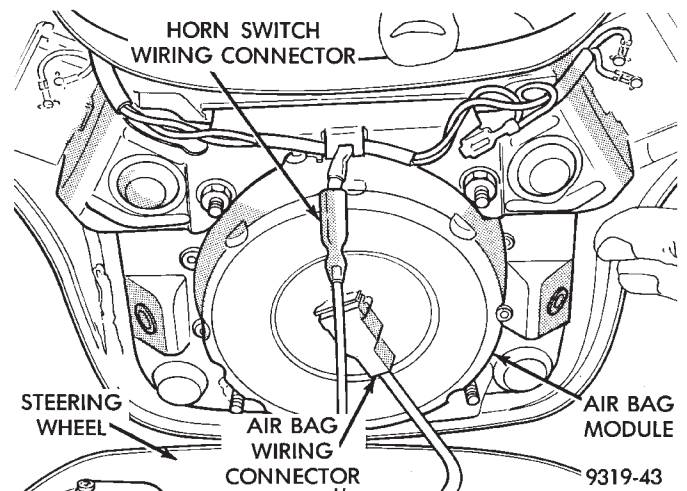

Fig. 20 Wiring Harness connections At Air Bag Module
(20) Connect vehicle wiring harness connectors to connections on air bag module (Fig. 20).